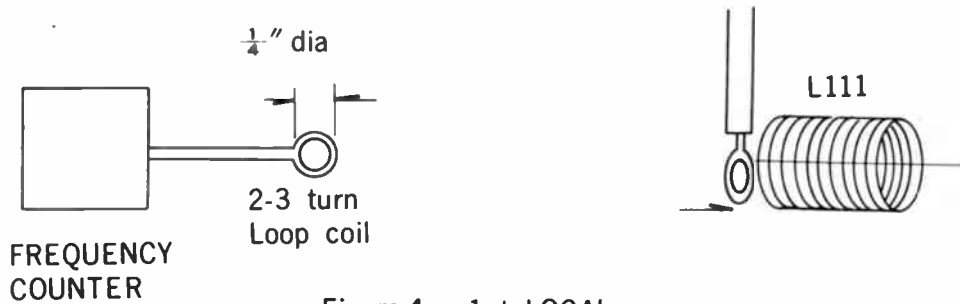

Figure 4 1st LOCAL OSCILLATOR
STEP 2. Couple the frequency counter thru a pickup coil to oscillator coil L111. Refer to Figure 4.